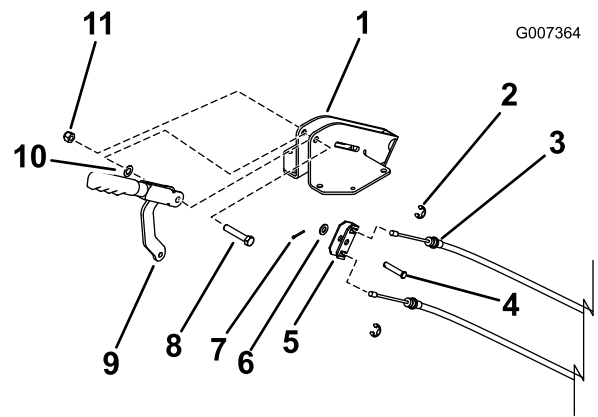

Figure 17
1. Assembly the parking brake (Figure 17) and cables.
- C. Move the lower swing arm of the parking brake lever into the parking brake support as shown in Figure 17. Align the hole in the swing arm with hole in the equalizer plate and milled slot of the support.